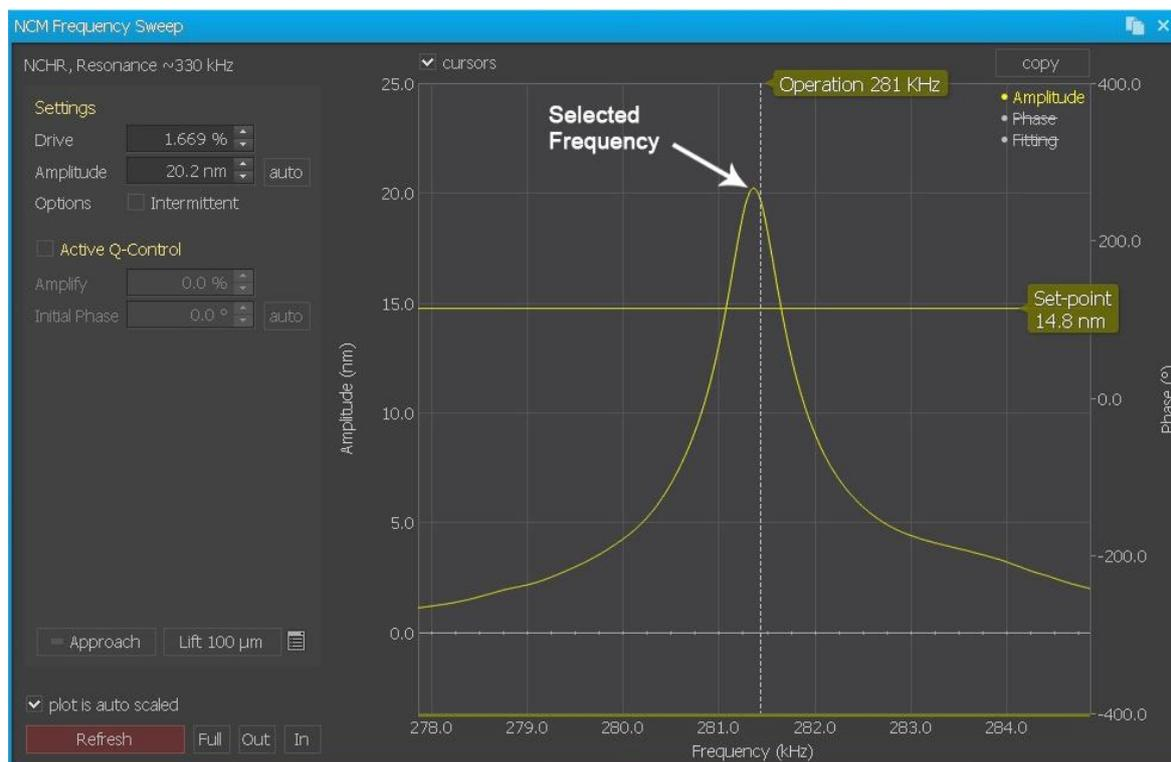

Figure 7-31. Resonant Frequency setup in Non-Contact Mode
6. After positioning the mouse pointer on the slope just to the right hand side of the strongest peak as shown in Figure 7-31, click on it with the left mouse button and a '+' sign will appear. The location of the '+' sign corresponds to the selected frequency f_1 at which the cantilever will vibrate in non-contact mode. After positioning the mouse pointer on the red horizontal line, move this red line up and down while holding the left mouse button; this will allow you to change the set point value. In general, make the set point just higher than half of the peak height, and press the "OK" button once to enter the selection.